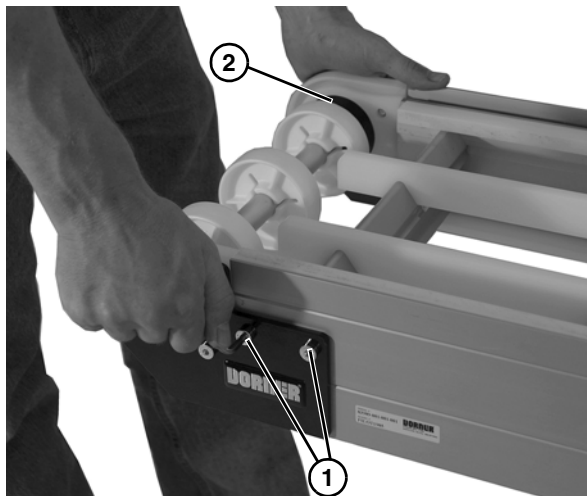

Figure 62
2. On one side of conveyor, remove the two socket head screws (**Figure 62, item 1**).